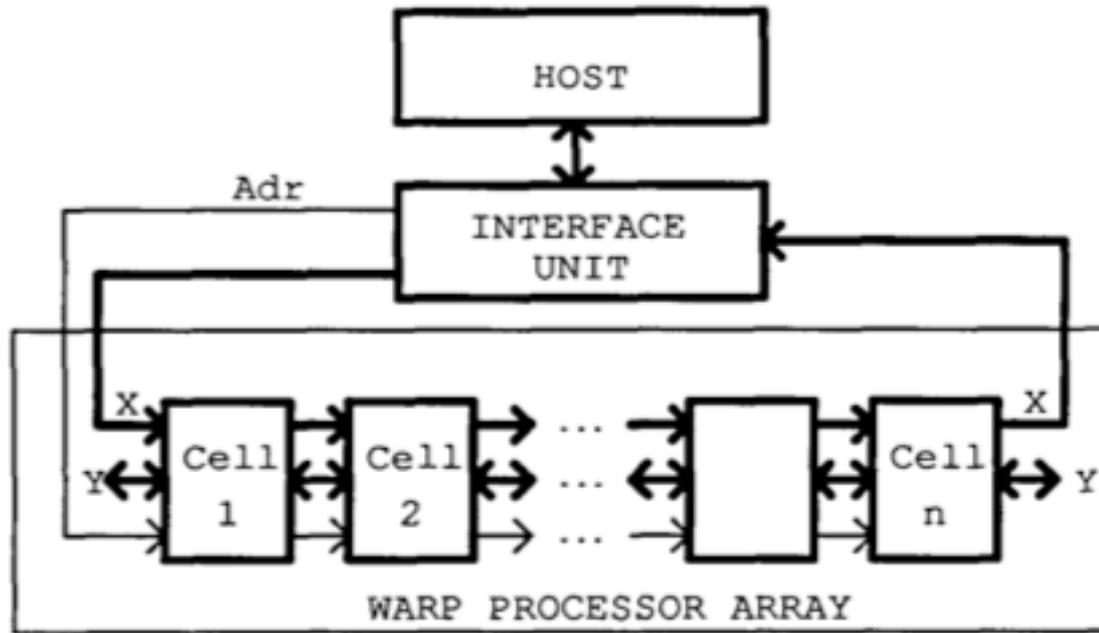

Figure 1: Warp system overview
Figure 1. TPU Block Diagram. The main computation part is the yellow Matrix Multiply unit in the upper right hand corner. Its inputs are the blue Weight FIFO and the blue Unified Buffer (UB) and its output is the blue Accumulators (Acc). The yellow Activation Unit performs the nonlinear functions on the Acc, which go to the UB.